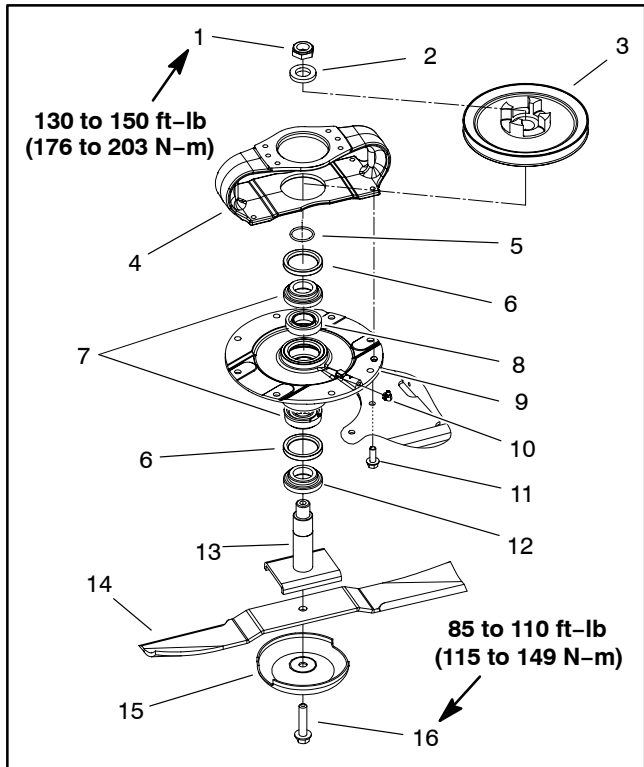

Figure 8
6. For drive spindle assemblies (Fig. 8), remove flange head screws that secure spindle to deck. Remove spindle housing assembly with motor mount from deck.